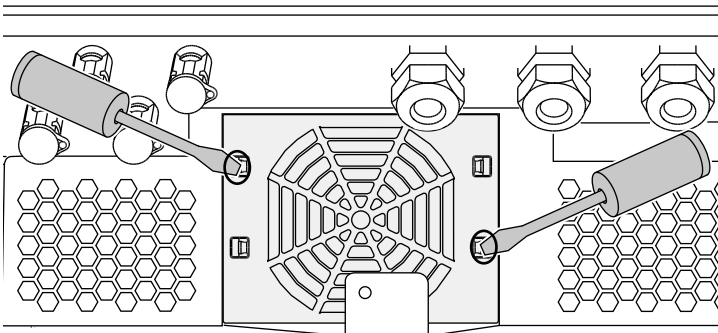

Fig. 58: Loosen fastening straps
3. Press the fastening straps toward the centre of the fan with a second screwdriver. Pull the fan unit slightly forward. ↗️ **Fig. 58**